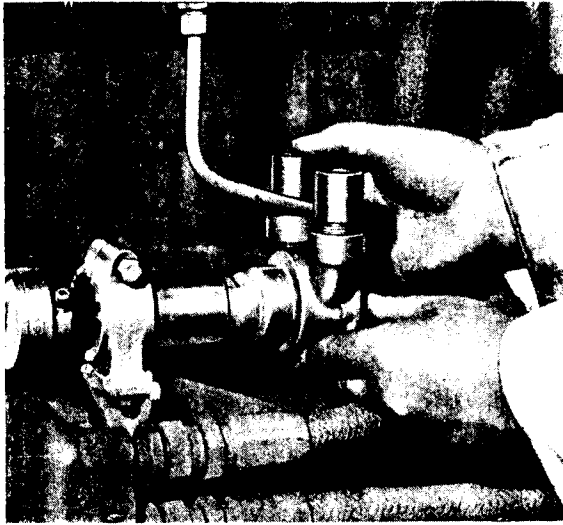

Fig. L.10
4. Remove the pump by withdrawing it rearwards and out of its mounting bracket. (See Fig. L.10).